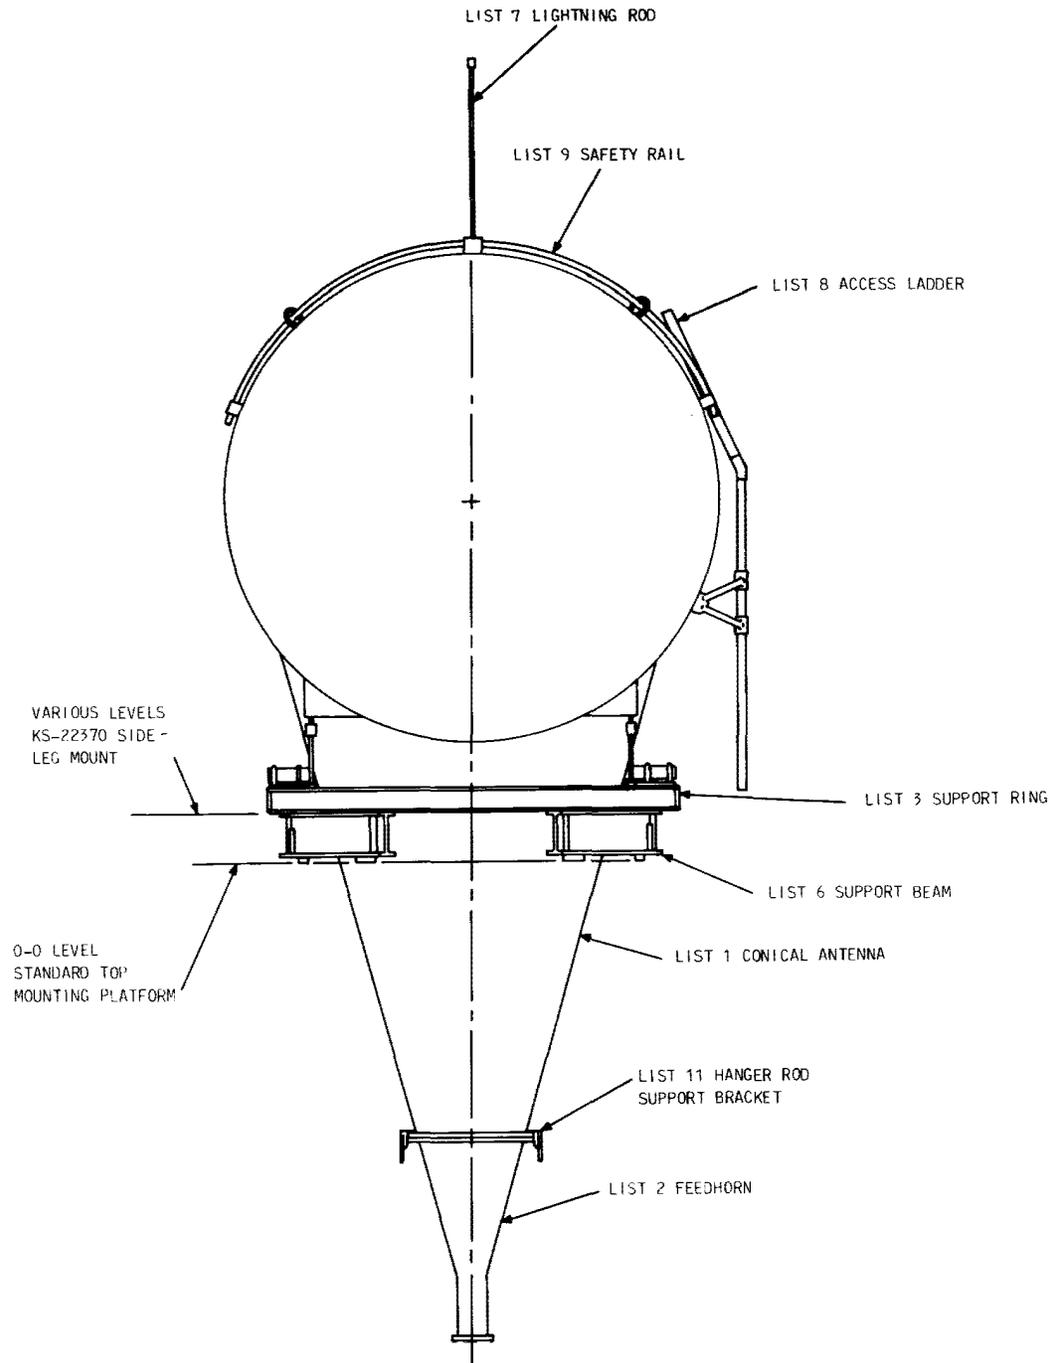

Fig. 1—KS-21972 Conical Antenna (Front View)
1.07 An assembled antenna with all lists is shown in Fig. 1 and 2.